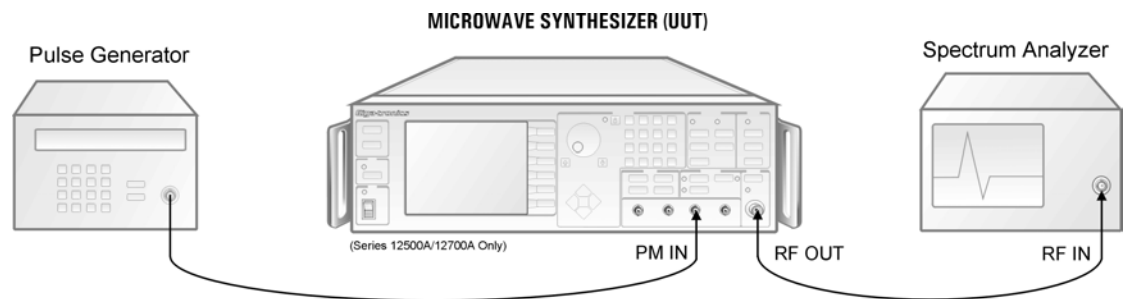

Figure 2-8: Pulse Modulation On/Off Ratio Test
1. Connect the equipment as shown in Figure 2-8. Allow 30 minutes warm-up time.
2. Enter the first frequency on the test data sheet within the frequency range of the instrument. The RF power level should be at 0 dBm. Select external pulse modulation (PM) on the 12000A.